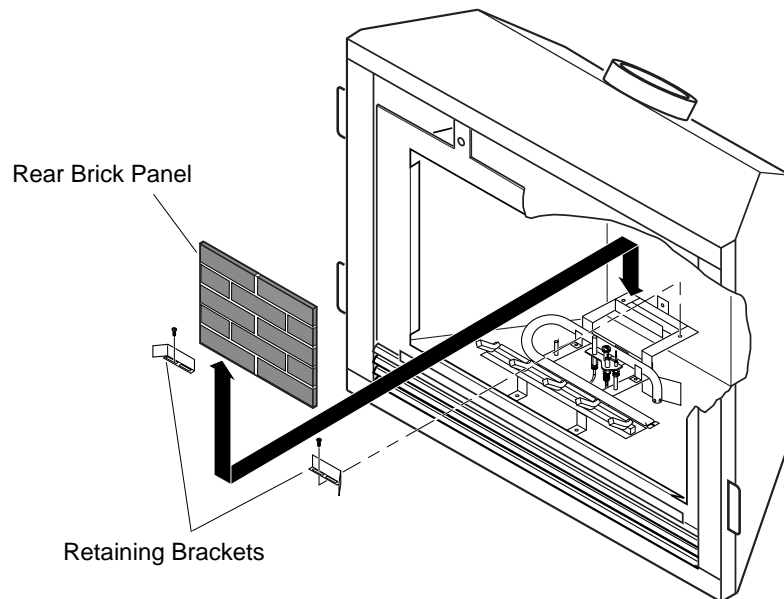

Figure 46 - Installing Rear Brick Panel and Retainer Brackets
3. Install rear brick panel first. Rest bottom edge of panel on back edge of grate (see Figure 46).